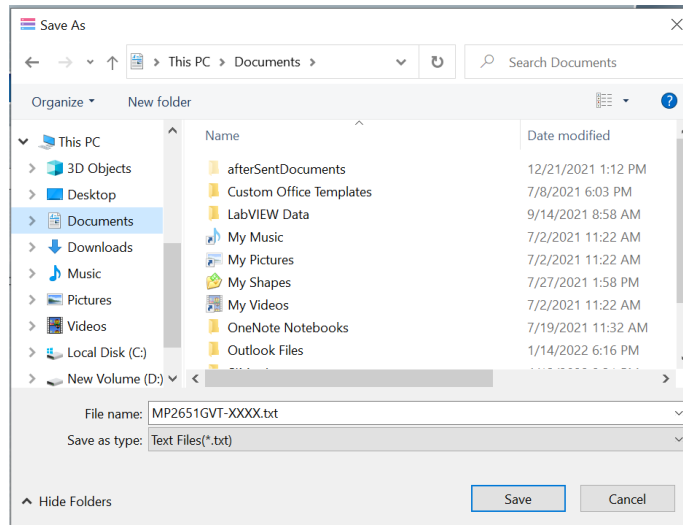

Figure 14: Export to the Desired Location
8. Find a location for the exported file and click “Save”. The configurations should be saved in a text file (see Figure 14).